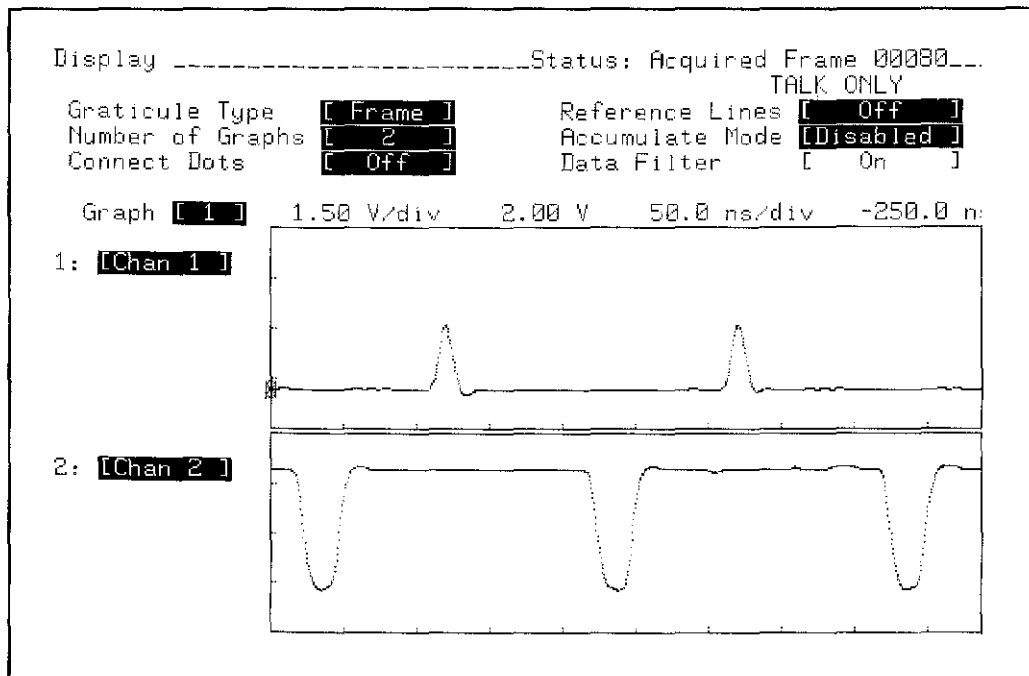

Figure 3-33. Clock Pulse Width Test Waveforms
23. The waveforms displayed on screen should be similar to figure 3-33.
26. The waveforms displayed on screen should be similar to figure 3-33.
29. The waveforms displayed on screen should be similar to figure 3-33.